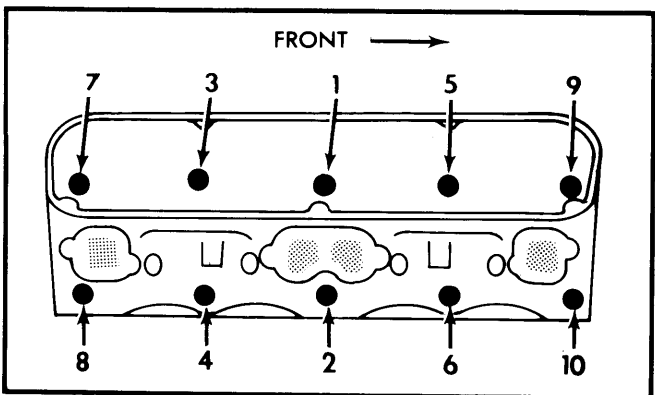

Fig. 2 Cylinder Head Tightening Sequence
**Installation** – Clean all gasket surfaces of cylinder block and head. Coat new gasket with suitable sealer. Install gasket and cylinder head on block. Apply sealer to cylinder head bolts, install bolts and tighten to specifications in 2 steps. Use tightening sequence shown in Fig. 2.